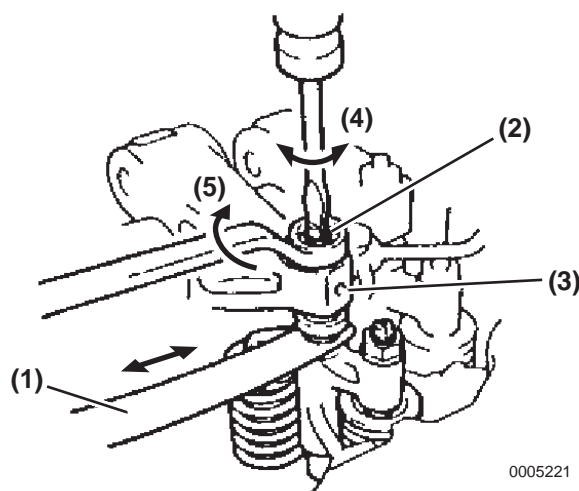

Figure 5-222
3. Insert a 0.20 mm feeler gauge (**Figure 5-222, (1)**) between the adjusting screw (**Figure 5-222, (2)**) on the valve rocker arm (**Figure 5-222, (3)**) and the valve bridge for the intake side and a 0.50 mm feeler gauge (**Figure 5-222, (1)**) for the exhaust side.
4. Turn the adjusting screw (**Figure 5-222, (4)**) on the valve rocker arm, slightly slide the feeler gauge, and lock (**Figure 5-222, (5)**) the adjusting screw by the lock nut.